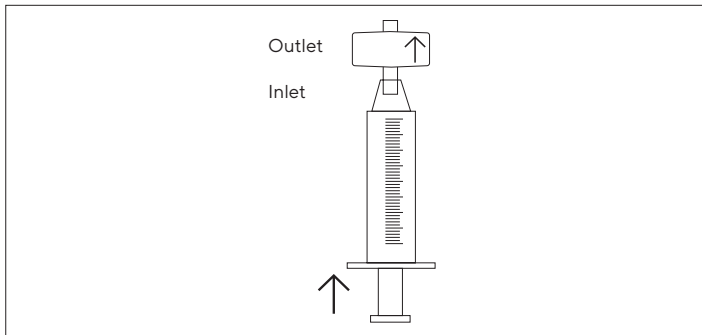

Fig. 7: Filling the Sartobind® Nano with a Luer syringe for air removal
- ▶ Fill a 10 – 20 mL Luer syringe with equilibration buffer and connect to the capsule. Hold capsule upright (outlet is up) and expel air as shown in Fig. 7.